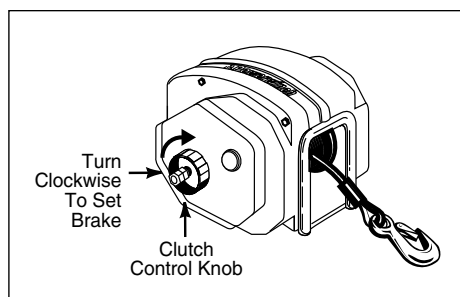

Figure 4
3. Turn the clutch control knob **clockwise until finger tight** to set the brake (See Figure 4).